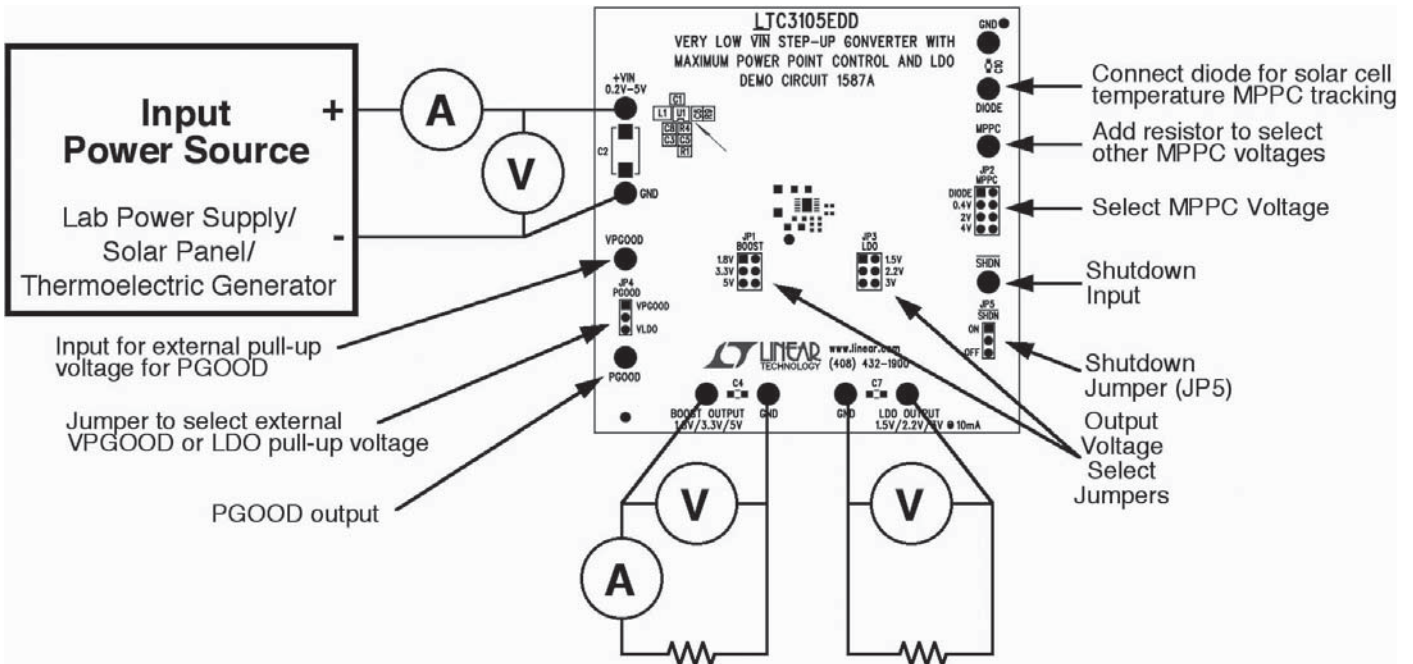
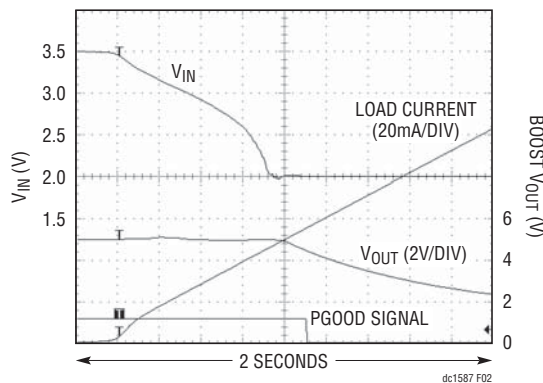

Figure 1. Proper Measurement Equipment Setup
Figure 2. Maximum Power Point Control Programmed for 2V, Operating from a High Impedance Input Power Source (10Ω)
Equipment required to evaluate the LTC3105 demonstration circuit include a low voltage bench power supply, digital voltmeters and suitable load resistors. Refer to Figure 1 for proper measurement equipment setup and follow the procedure below.
2. With the power off, connect a low voltage adjustable power supply and three voltmeters as shown in Figure 1 (ammeters are optional). Switch the power supply on and adjust the voltage to approximately 450mV, and move the JP5 jumper to the ON position. With no load resistor on either output, verify that the BOOST and LDO output voltages are within the specifications shown in Table 1. Increase the input voltage to 1.5V and connect suitable load resistors to the output terminals to verify the output voltages under load. The maximum Boost output current is dependant on V_{IN} and the maximum LDO output current is 6mA
As the output load current increases, the voltage on V_{IN} decreases due to the 10Ω input resistor. Figure 2 shows V_{IN} , V_{OUT} and PGOOD voltages as the load current is increased over a 2 second time period with the MPPC programmed for 2V. The output remains at a regulated 5V until the input voltage drops to the 2V MPPC threshold. The MPPC prevents the input voltage from dropping below 2V by reducing the output voltage. Without MPPC, the output voltage would drop to near 0V resulting in zero output power. Connecting the MPPC pin to GND will disable the MPPC function. Also shown in Figure 1 is the Power Good (PGOOD) signal that pulls low when the Boost output voltage drops 10% below the programmed value.